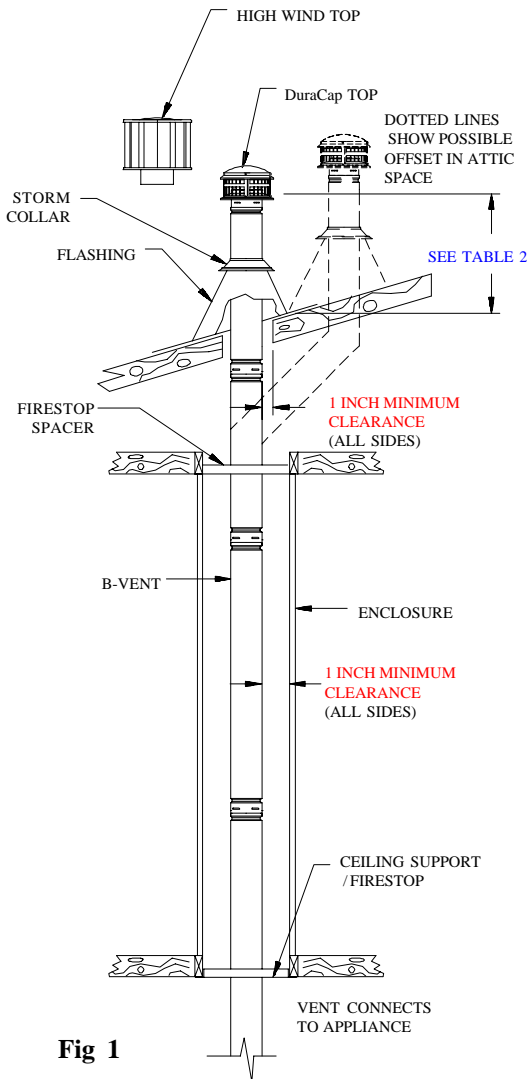
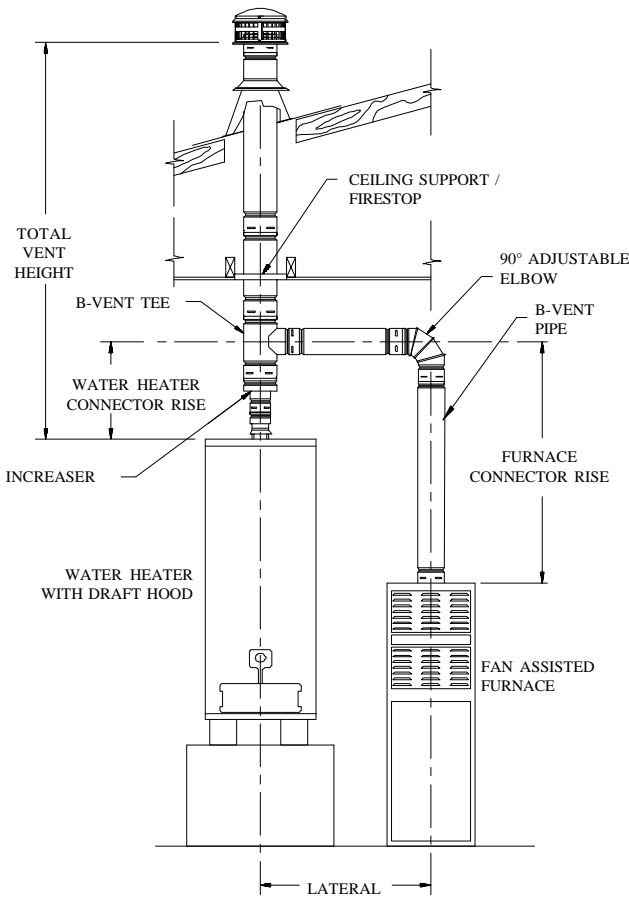
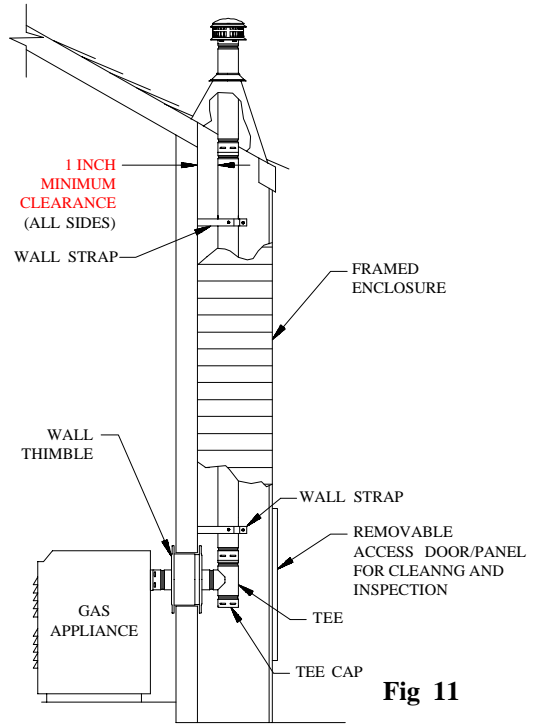

Fig 1
Fig 2
Fig 11
3. **Figures 1, 2, & 3** show examples of some typical residential installations.
8. **Tees and Wyes.** **Tees** and **Wyes** are used to combine connectors from 2 or more appliances into a common vent as shown in **Figures 2** and **3**. A **Tee** should be used in a through-the-wall application, (**Figure 11**), as they have a removable **Tee Cap** (available as a separate item) attached to the bottom. This **Tee Cap** may be removed in order to inspect the system, or to clean out debris or collected condensate from the common vent. **Wall Straps** should be positioned every four feet to support the vertical common vent.
burns. **Figure 1** (page 2) shows a system which passes through an occupied second floor. Simpson Dura-Vent does not recommend installation of B-Vent Pipe on the outside wall of a building, particularly in cold climates. If it is necessary to do this, enclose the outside portion of the system in a chase, as shown in **Figure 11**. It would be wise to consult the Local Authority prior to construction. Note that the enclosure requires an access door for inspection and maintenance purposes.